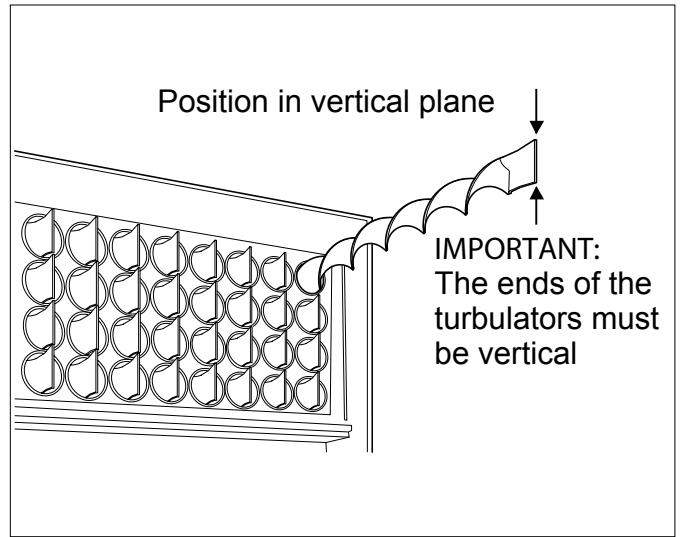

Figure 11-4: Turbulators
7. Pull out the spiral turbulators from the heat exchanger tubes. See Figure 11-4. Clean the turbulators using a stiff brush.